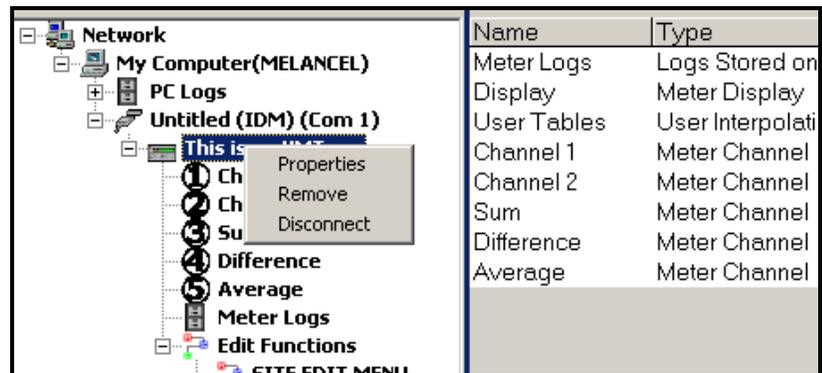

Figure 2-4: The *Properties* Option in the *New Meter Browser*
2. Right-click on the highlighted XGM868i and click on the *Properties* option, as shown in Figure 2-4 below.